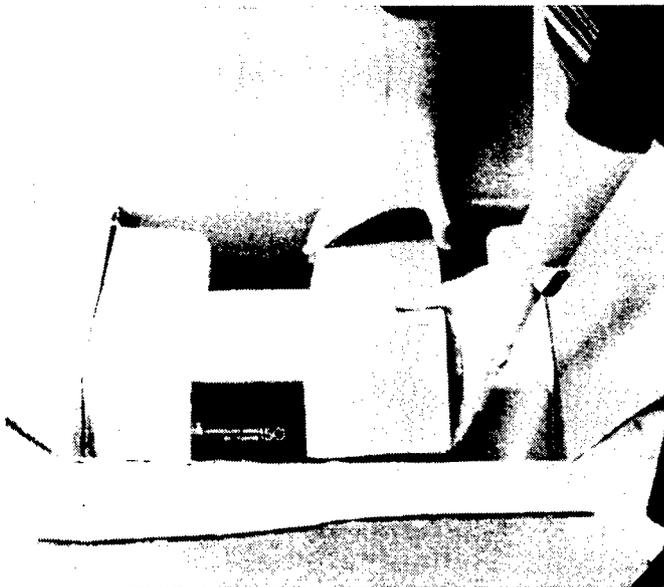

Figure 2-1. 100 Series
The instrument should be unpacked close to the site of operation. Carefully open the carton, as shown in Figure 2-1, and check the contents against the packing slip. If any parts on the shipping list are missing, immediately notify Baker Instruments Corporation. If shipping damage is found, immediately file a claim with the commercial carrier, and then notify Baker Instruments Corporation at (215)-264-2800. Outside the United States and Canada, contact your distributor.